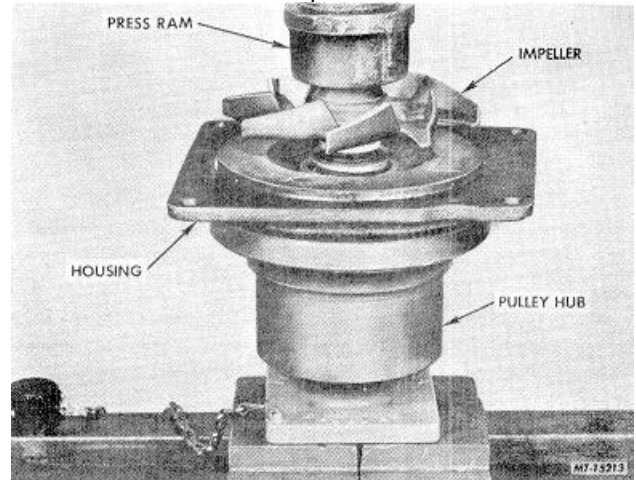

Fig. 136 Pressing Impeller on Shaft Using SE-1950 Combination Installer and Support Fixture
5. Place impeller over shim on shaft and press impeller on shaft until press ram bottoms on the shim, Fig. 136. Remove shim stop.